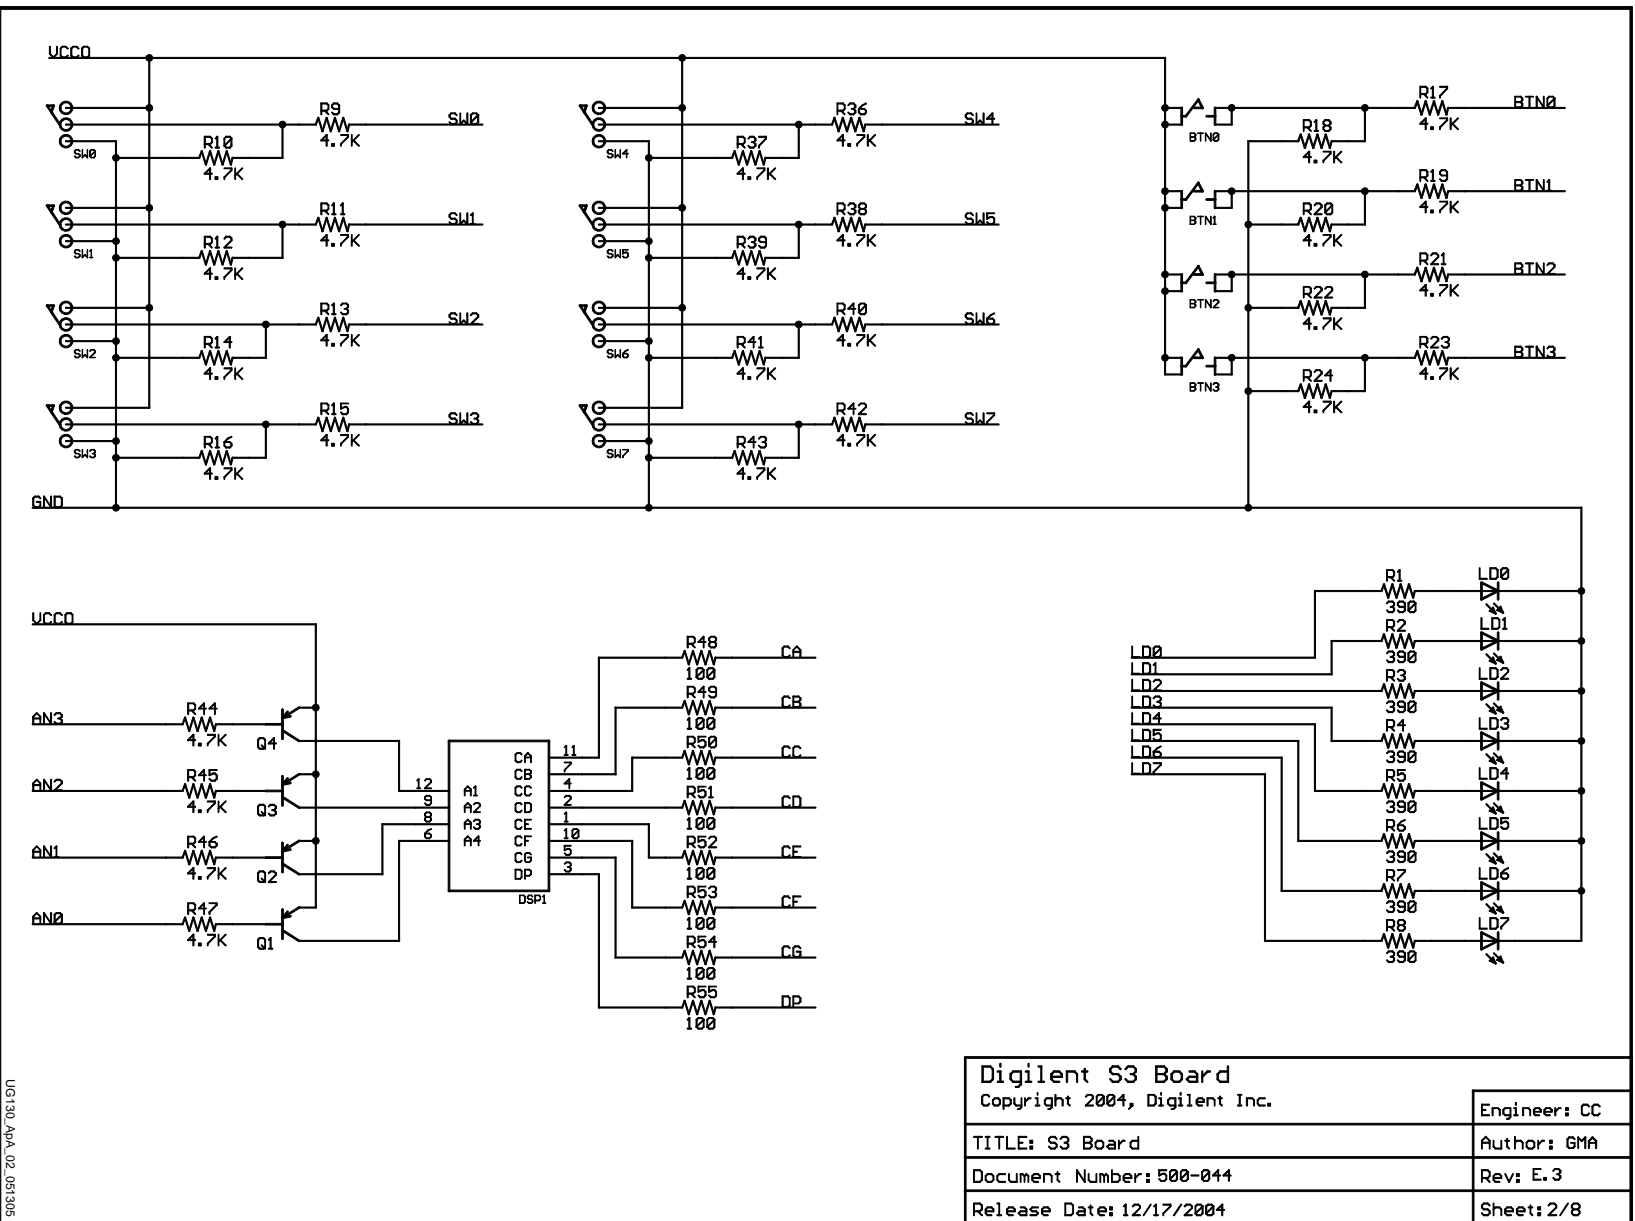

Figure A-2: Slide Switches, Push Buttons, LEDs, and Four-Character 7-Segment Display
- Figure A-2, "Slide Switches, Push Buttons, LEDs, and Four-Character 7-Segment Display"